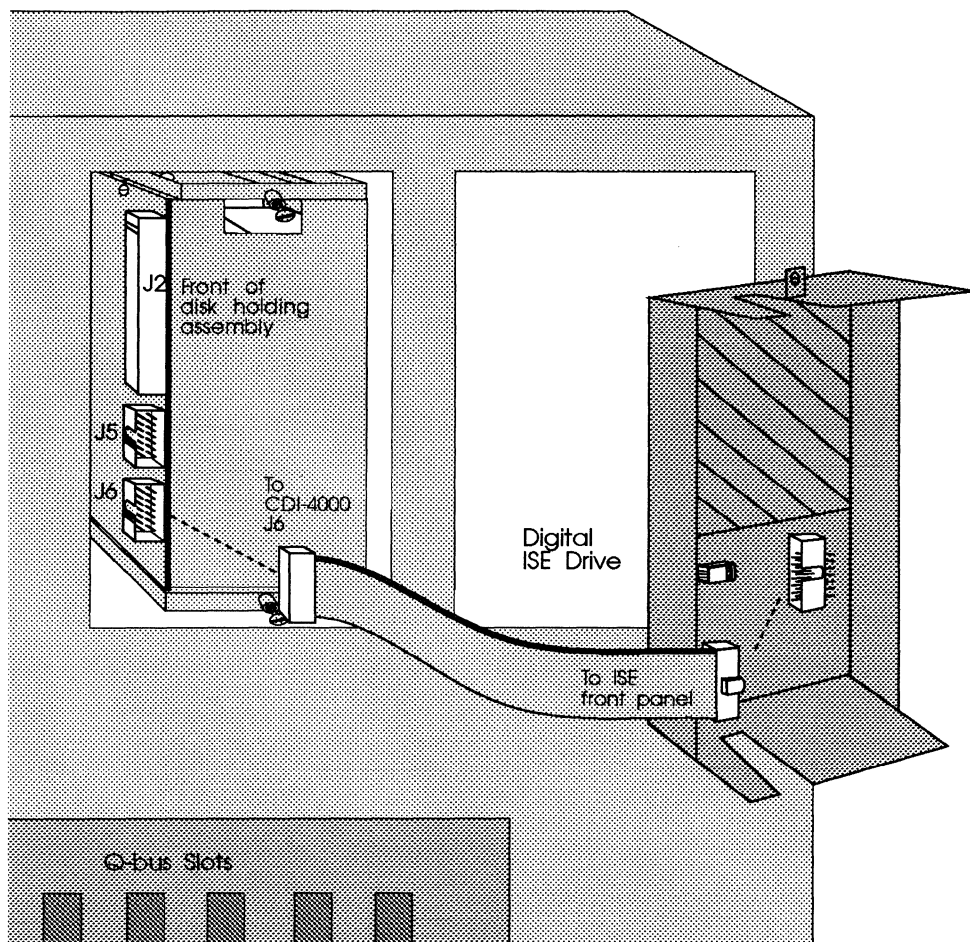

Figure 4-28: CDI-4000-SA2 ISE connections
- 16 Connect one end of the 14-pin cable to J6 of the CDI-4000 and the other end into the back of the ISE front panel display as shown in Figure 4-28.